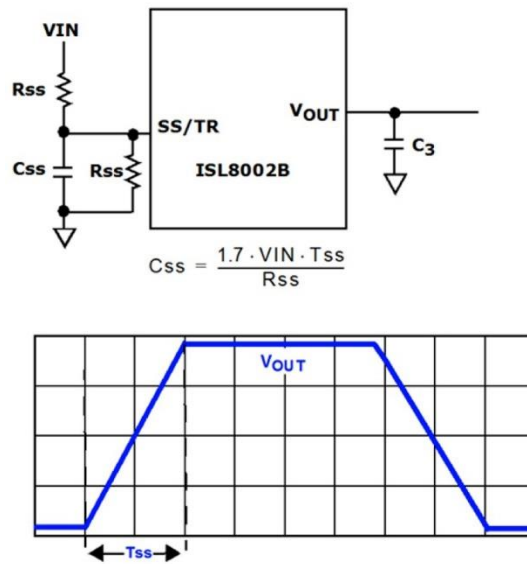

Figure 5. External soft-start configuration
The converter's Pin 5 provides both soft-start (SS) and output tracking (TR) functions. When this pin is connected high, the soft-start time is internally set to 1ms. However, various soft-start schemes can be achieved using external components. Figure 5 illustrates how the SS/TR feature is used to program external soft-start time.